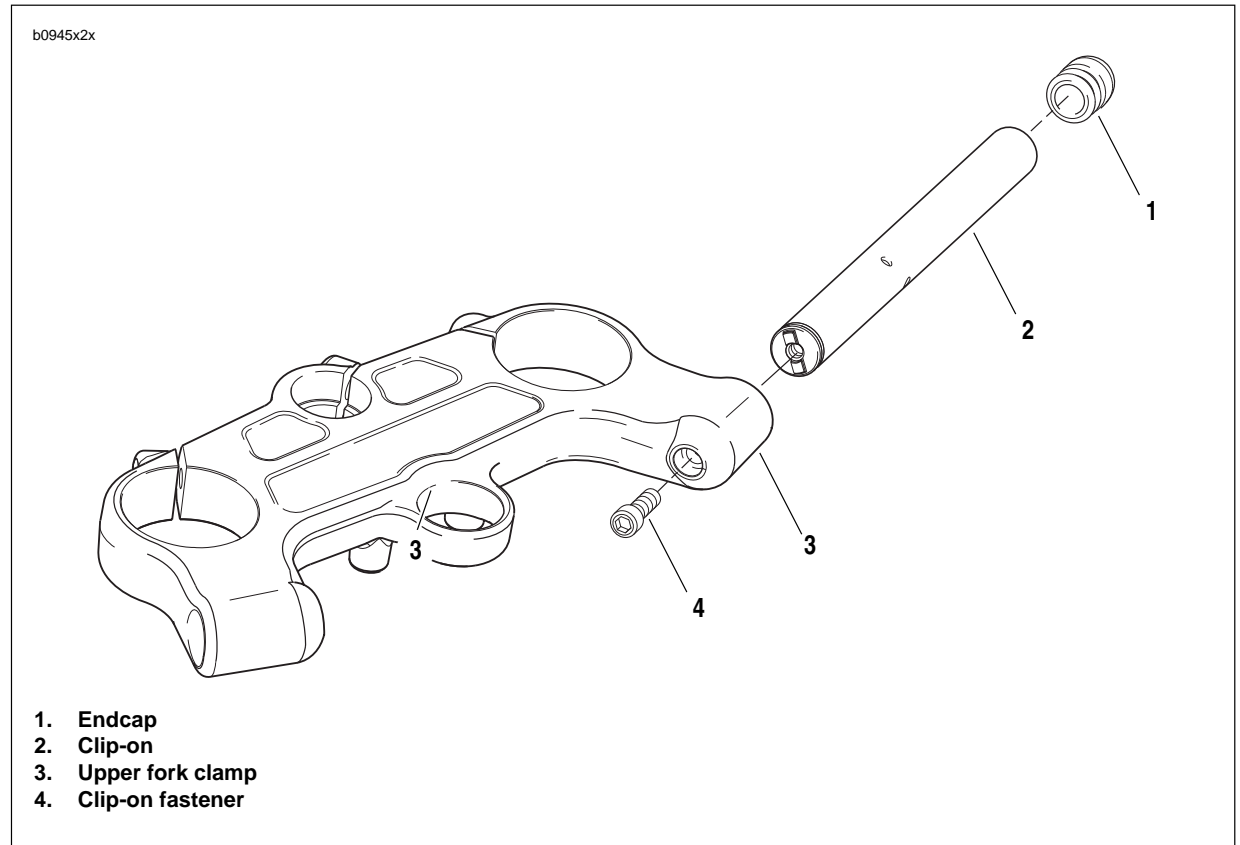

Figure 2-107. Handlebar Clip-on Assembly (left clip-on shown)
3. See Figure 2-107. Remove right clip-on assembly.
- a. Partially loosen clip-on mounting fastener (4).
- b. Using a rubber mallet, tap the partially loosened fastener to push the clip-on (2) from the upper right fork clamp (3). Repeat this procedure until fastener and clip-on has been removed from fork clamp.
4. Remove clip-on endcap (1).
- a. See Figure 2-107. Partially loosen clip-on mounting fastener.
- b. Using a rubber mallet, tap the partially loosened fastener to push the clip-on (2) from the upper left fork clamp (3). Repeat this procedure until fastener (4) and clip-on (2) has been removed from fork clamp.
3. See Figure 2-107. Install grip and endcap (1).
4. Install left clip-on into upper fork clamp (3) and tighten fastener (4) to 24-26 ft-lbs (33-35 Nm).